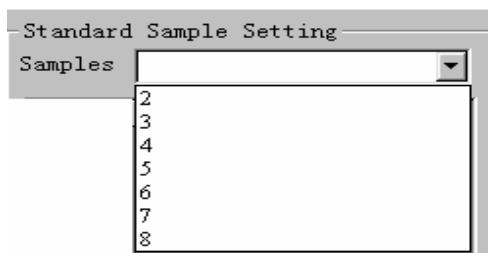

Figure-30 **Standard Sample Setting**
- Step 4: Under **Standard Sample Setting**, click the **Arrow** Button and set the number of standards (from 2 to 8) to be used (Figure-30).